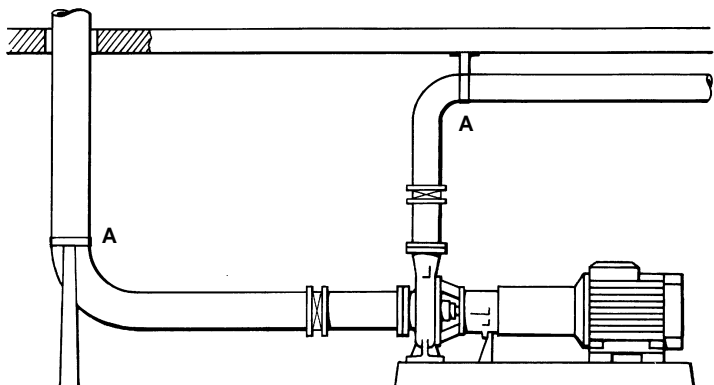

Fig. 18
Loads on the pump flanges arising from pipe stresses must be minimised. Piping and valves must be carefully supported, see (A) Fig. 18. Excessive pipe stresses can deform the casing resulting in impeller "binding" and changed alignment.